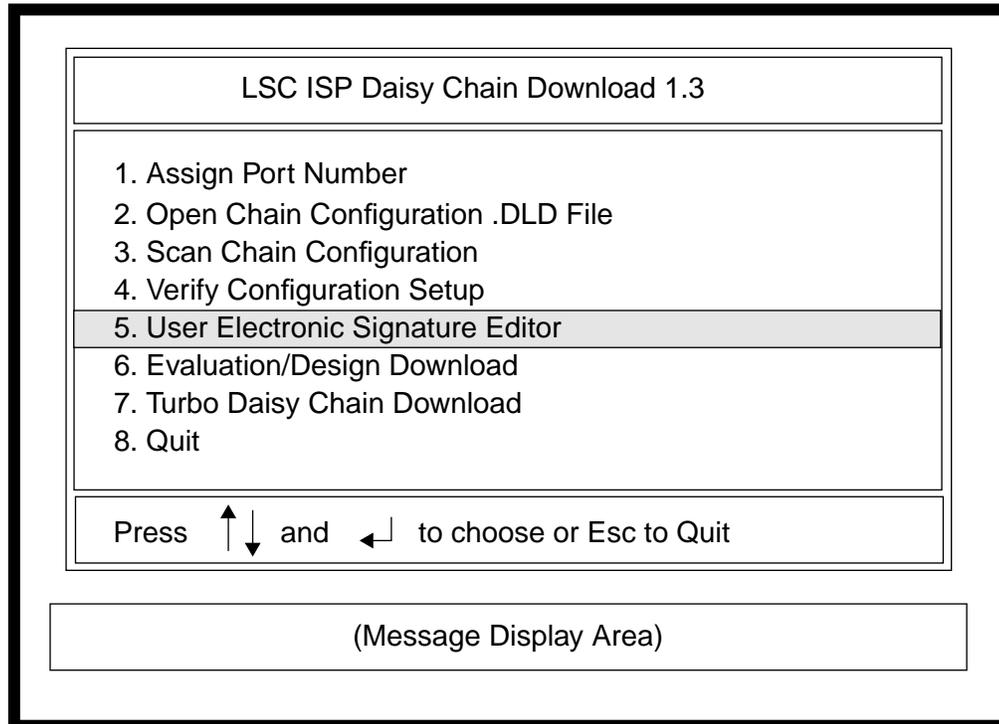
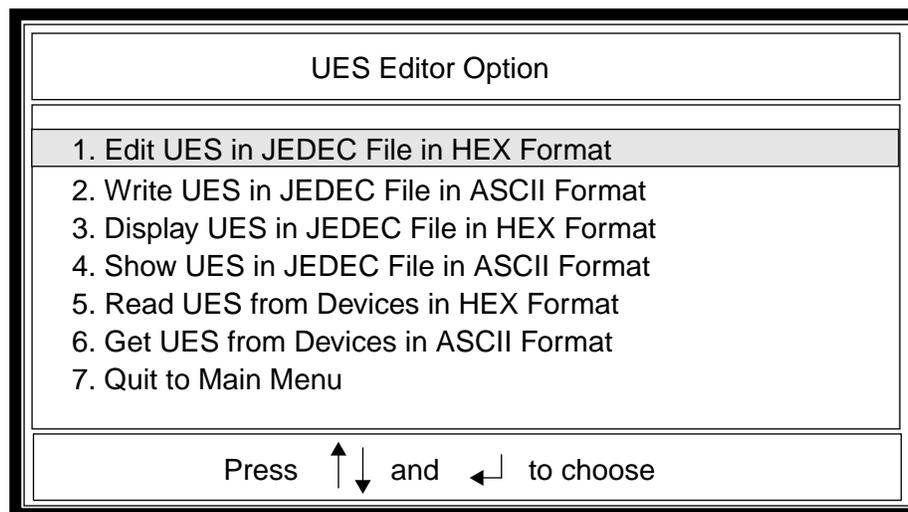

Figure 3-48. User Electronic Signature Editor Screen
Figure 3-49. UES Editor Screen
1. Select **5** or **U** from the IDCD menu (Figure 3-48). The UES Editor Option dialog box appears (Figure 3-49).